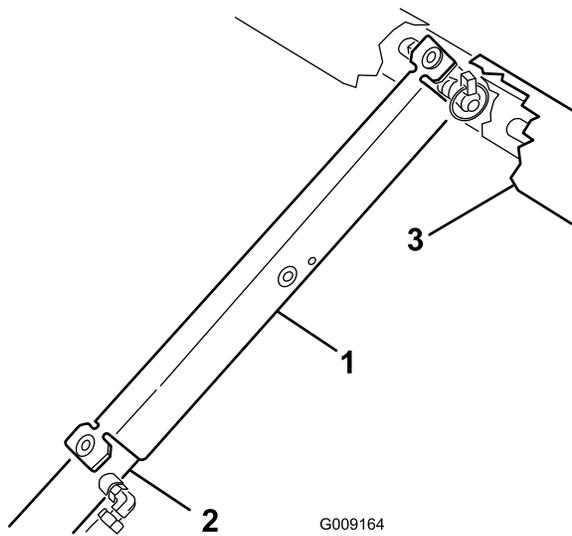

Figure 33
3. Push the bed support onto the cylinder rod, making sure the support end tabs rest on the end of cylinder barrel and on the cylinder rod end (Figure 33).